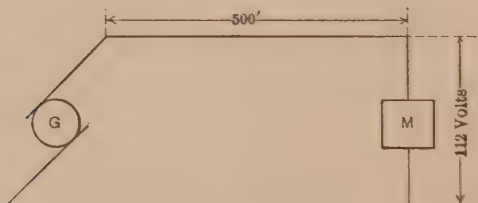

FIG. 88.
**Prob. 76.** The motor in Fig. 88 is 5 h.p., 85% efficiency. The line wires are No. 8.